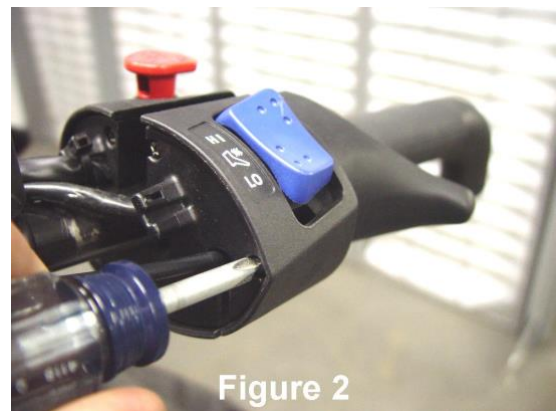

Figure 2
Step 4: Remove the three Phillips screws to disconnect the throttle cable cover from the throttle block. See **Figure 2**.